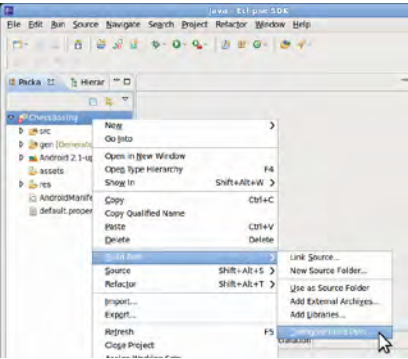
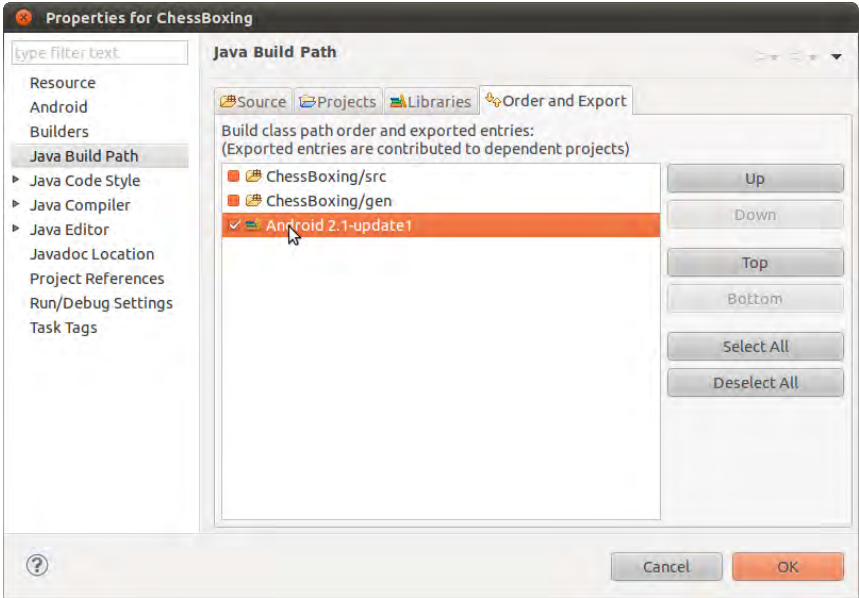

Figure 6-14. Configuring the Build Path for the Android version you’re using to compile the project
Figure 6-15. Choosing the Android version you prefer
6. Under Min SDK Version, pick the same level (7) that you picked for the build target.
7. Right-click the project (as shown in Figure 6-14), and choose Build →Configure Build Path. Go to the tab labeled “Order and Export” and select the Android library (for example, “Android 2.1-update1,” as shown in Figure 6-15). Click OK.